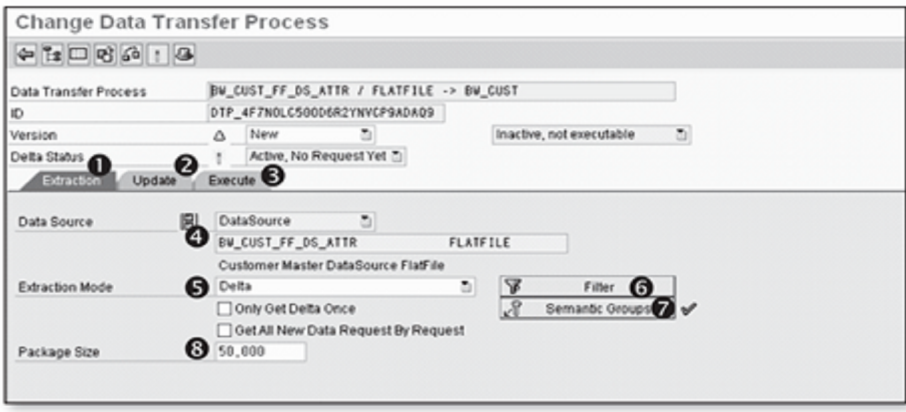

Figure 7.26 Change Data Transfer Process: Extraction Tab
The result of this action is the Change Data Transfer Process screen shown in Figure 7.26. Three different tabs (1, 2, and 3), are available, each of which we discuss next.
The Extraction tab provides details about the DataSource of the DTP, which is shown in 5 of Figure 7.26. There are two different extraction modes (6): full and delta. In the *full extraction mode*, all requests available in the associated PSA for the DataSource are loaded. In the *delta extraction mode*, the system loads only those requests from the associated PSA for the DataSource that are yet to be loaded to the data target. For our example, we use the delta mode.
- **Filter:** The Filter button (6) allows you to select records based on selection conditions (e.g., you can decide to load data only for a specific month or sales office).
- **Semantic Groups:** The Semantic Groups button (7) allows you to define keys for the extraction; data records with the same key are extracted in the same data package. Semantic keys also create a key for error stacks, which keeps track of erroneous records. These erroneous records can be corrected and loaded to a data target using an error DTP (we discuss this process in Section 7.5, Temporary Storage Areas and Error Stacks).
- **Package Size:** This field (8) helps you change the parameters that control the bulk of extraction. Records from DataSources are extracted in a set, and the number of records in this set is called the *package size*. Determining the package size helps you control the extraction process and relate to the available processing capacity in the system; after a data set equal to the package size is extracted, the system starts loading it to a data target using another process. For our example, we don't change any default settings, and we keep the screen as shown in Figure 7.26.